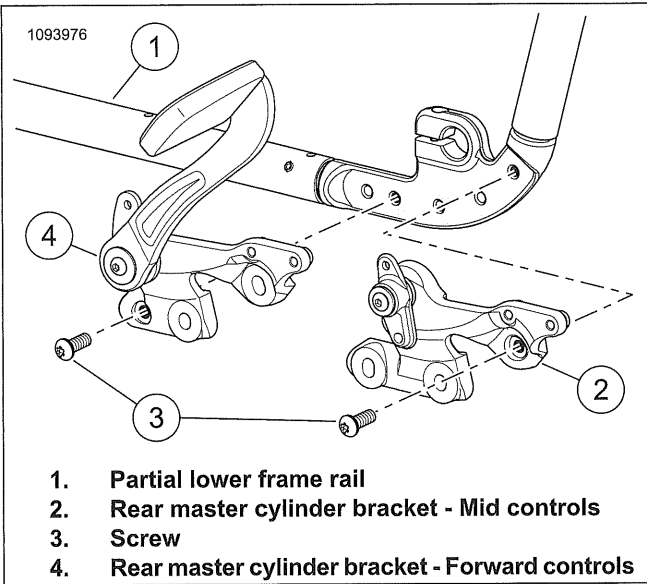

Figure 3-43. Rear Master Cylinder Bracket
- a. See Figure 3-43. Remove screw (3).
5. See Figure 3-43. Install screw. Tighten.